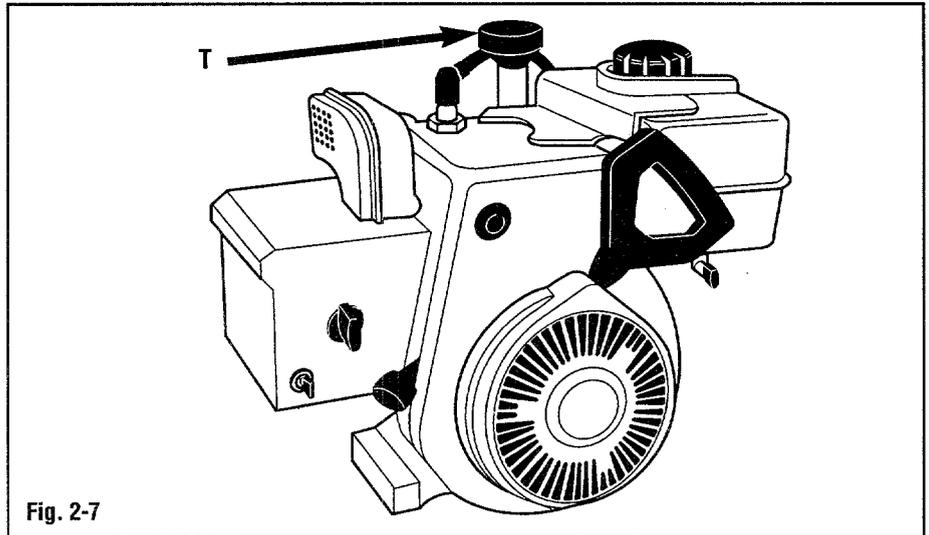

Fig. 2-7
1. To add engine oil, unscrew the dipstick (T, Fig. 2-7). Fill engine at dipstick opening with fresh oil. Refer to the engine owner manual for correct oil specifications.